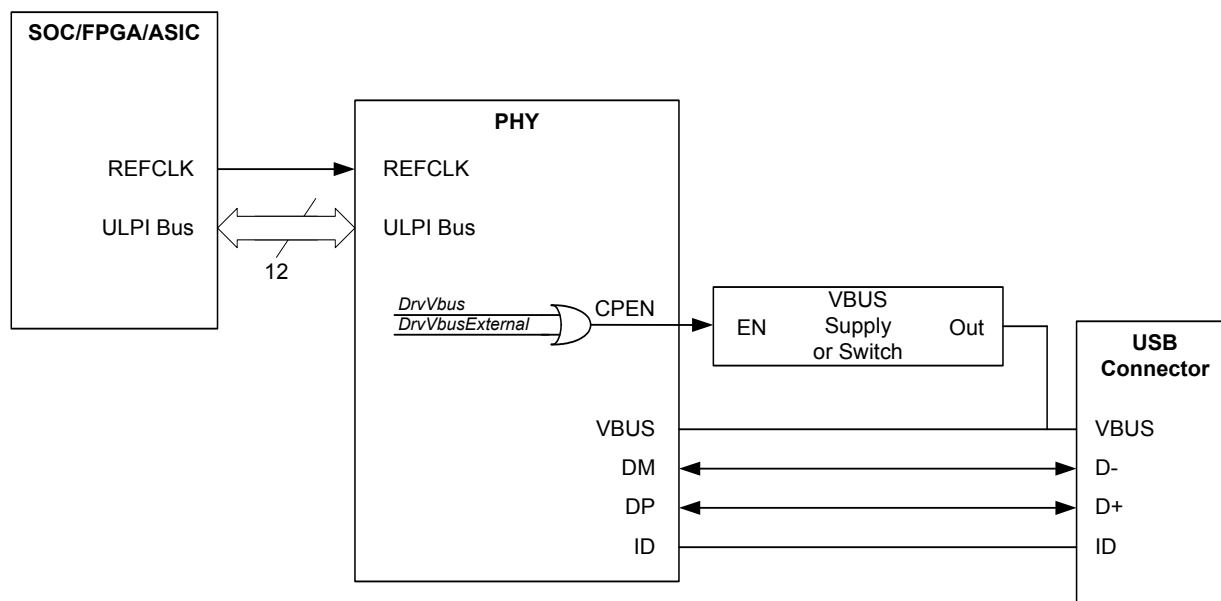

Figure 5.9 USB3317 Drives External Vbus Supply or Switch
**CPEN** is asserted by setting the *DrvVbus* or *DrvVbusExternal* bit of the **OTG Control** register. To be compatible with Link designs that support both internal and external Vbus supplies the *DrvVbus* and *DrvVbusExternal* bits in the OTG Control Register are or'd together. This enables the Link to set either bit to access the external Vbus enable (**CPEN**.) This logic is shown in Figure 5.9. *DrvVbus* and *DrvVbusExternal* are set to 0 on POR.